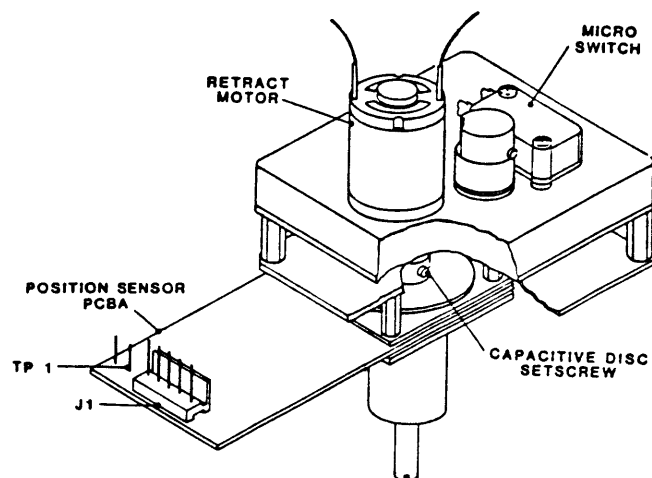

Figure 4-17 Supply-Arm Retract and Pivot Sensor Assembly
4.3.21 RETRACT AND PIVOT SENSOR (SUPPLY) (Figure 4-17)